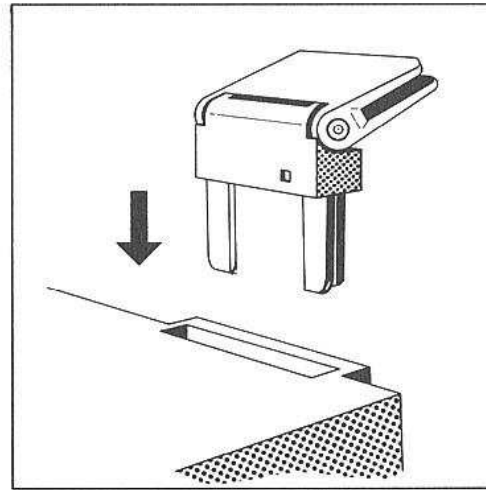

Fig. 5
- Insert the hinges **2** in the appropriate recesses (fig. 5). Slide the cover **1** parallel to the position of the hinges **2** (opening angle approximately 60°) until it locks in position. In this position, the cover can be removed at any time.
- Loosen screw **8** and remove the head shell by pulling it forward (fig. 5). Remove the cartridge by loosening the two securing screws **10**. Pull off the connection wire on the cartridge. Attach the new cartridge, at first loosely, on the head shell. Secure the connection wires with the connection pin on the cartridge.